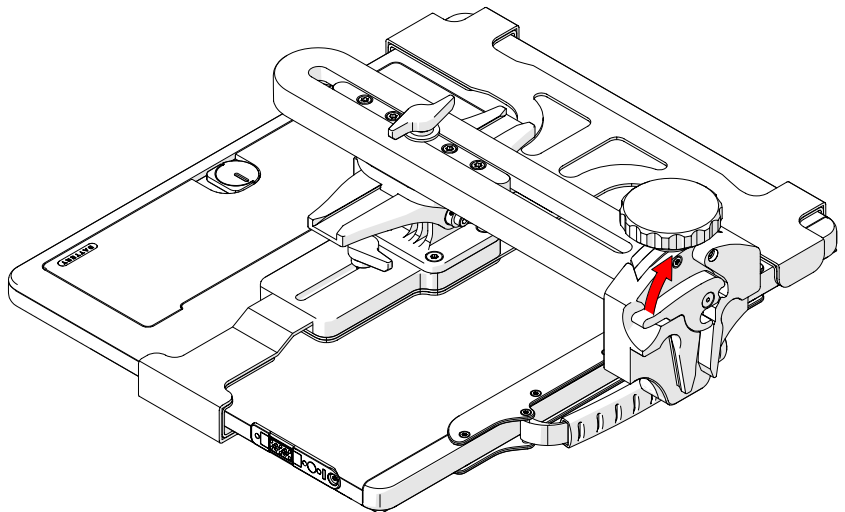

Fig. 50 - Lift latch
1. Ensure that the lever of the detector bracket is lifted (*Fig. 50*).